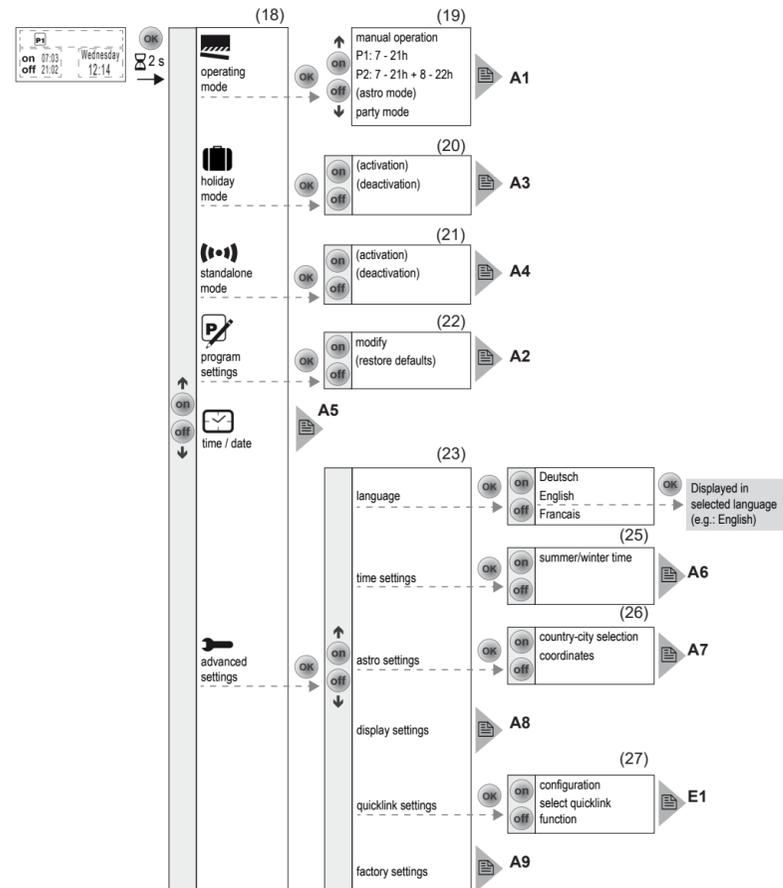
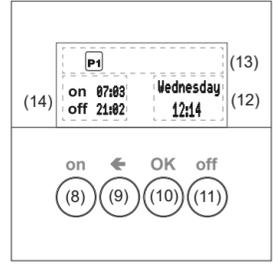

Figure 4: Menu overview
Figure 2: Display and operating elements
The time switch can be found in the submenu **Holiday programme** (Fig. 4, 20).
The timer can be found in the submenu **Stand-alone programme** (Fig. 4, 21).
In the main menu (Fig. 4, 18), **Time/date** is highlighted dark.
The device shows the Programme selection submenu (Fig. 4, 18). The most recently selected programme is highlighted dark.
The options **modify** and **restore defaults** (Figure 4, 22) can be used for the preset factory programmes:
A short press on the **on** and **off** buttons (Figure 2) switches loads manually, whilst a press > 2 seconds can trigger various functions within the menu operation.
The submenu **Astro setting** is displayed (Fig. 4, 26).
**Yes:** The screen switches to the basic display. The Astro programme is run and the appropriate symbol (Table 1) displayed (Figure 2, 13). The Astro settings are saved and Astro is added to the programme selection (Fig. 4, 19).
**No:** The screen switches to the basic display. The Astro settings are saved and Astro is added to the programme selection (Fig. 4, 19), but is not run.
In the submenu Basic setting (Fig. 4, 23), **Display setting** is highlighted dark.